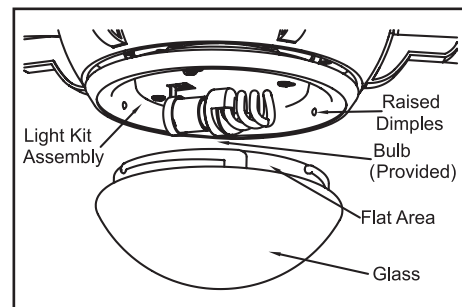

Figure 13
4. With power off, install the fluorescent bulb (Max. 14W, provided) by screwing into the light bulb sockets (Figure 13).
5. Place the glass shade into the light kit assembly, aligning the three flat areas on the top flange of the glass shade with the three raised dimples in the light kit assembly. Turn the glass shade clockwise until it stops (Figure 13).